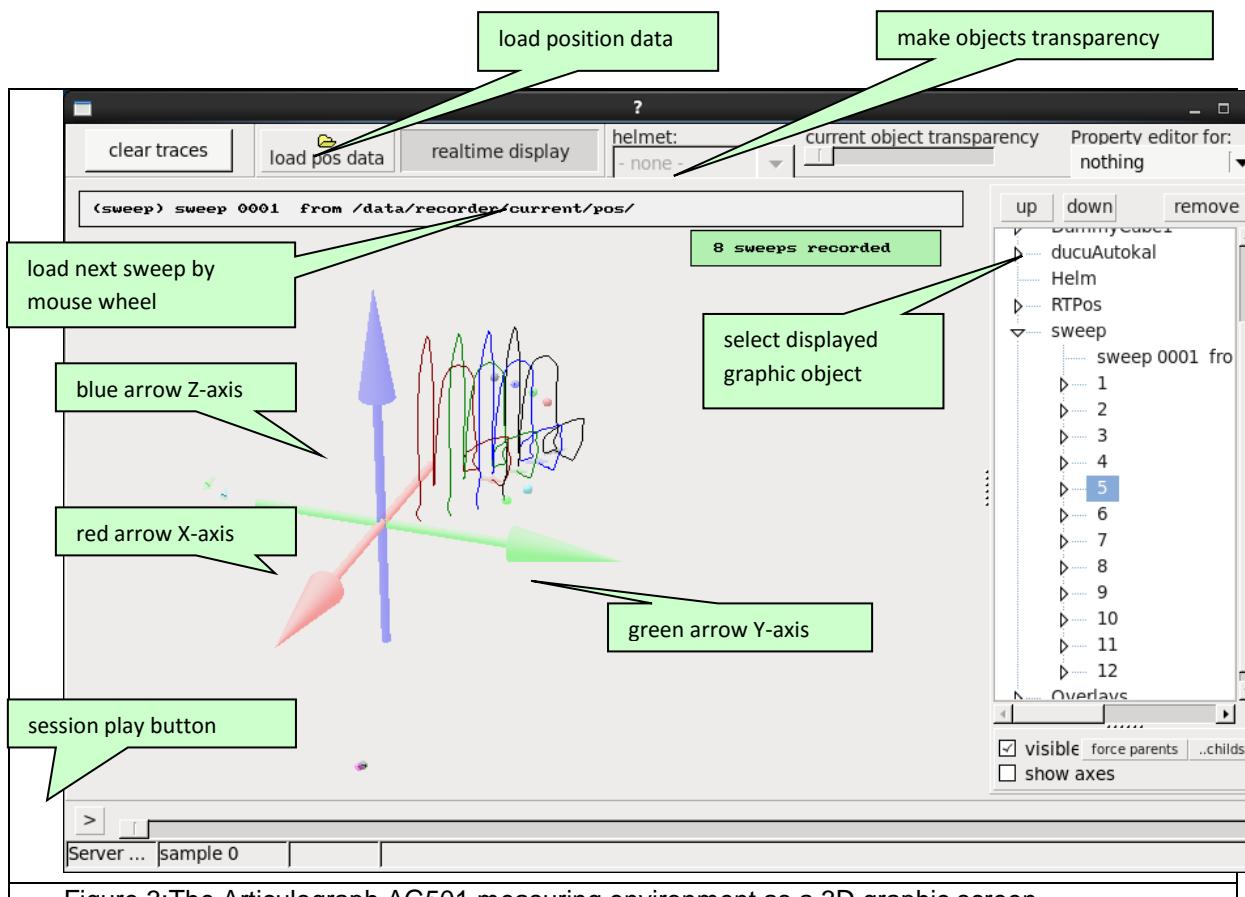

Figure 3: The Articulograph AG501 measuring environment as a 3D graphic screen
- click the button “load pos data” (Figure 3)
- to change the transparency of the measurement range, use the scroll bar “current object transparency” (Figure 3)